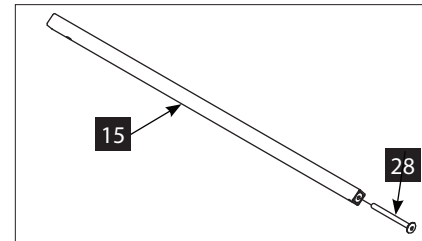

FIGURE 4A
7. Screw the M6 x 70 MM bolt (28) into the end of the front seat tensioner (15) until snug. **SEE FIGURE 4A**
8. Slide the front seat tensioner assembly from **FIGURE 4A** through the open tube mount on the lower front edge of the seat assembly (13) such that the bolt end of the front seat tensioner assembly bumps up against the end of the closed tube mount. Make sure the bolt holes line up in the open tube mount located on seat assembly (13) and front seat tensioner assembly. **SEE FIGURE 4.**